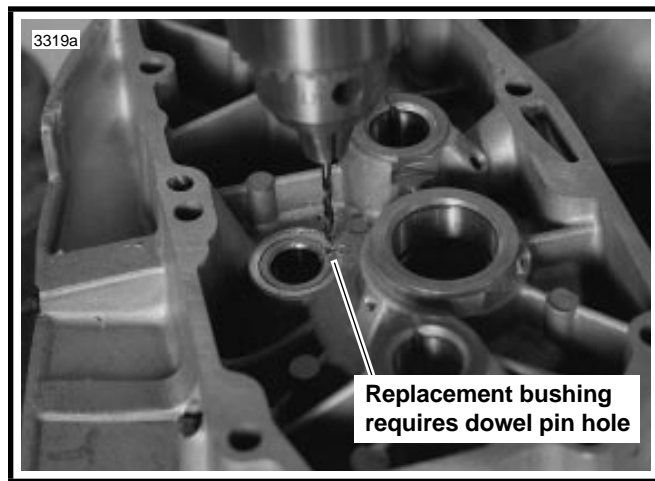

Figure 3-58. Drilling Dowel Pin Hole
2. Although the original pinion shaft bushing is not “pinned,” the replacement bushing must be secured, from possible rotation within the cover bore, by installation of a dowel pin. See Figure 3-58. Drill a No. 31 hole, 0.281 in. (7.14 mm) deep, at top side of boss (side toward top of gearcase cover), centering the drill bit on the cover bore circle (hole is drilled half in bushing OD and half in cover bore ID).